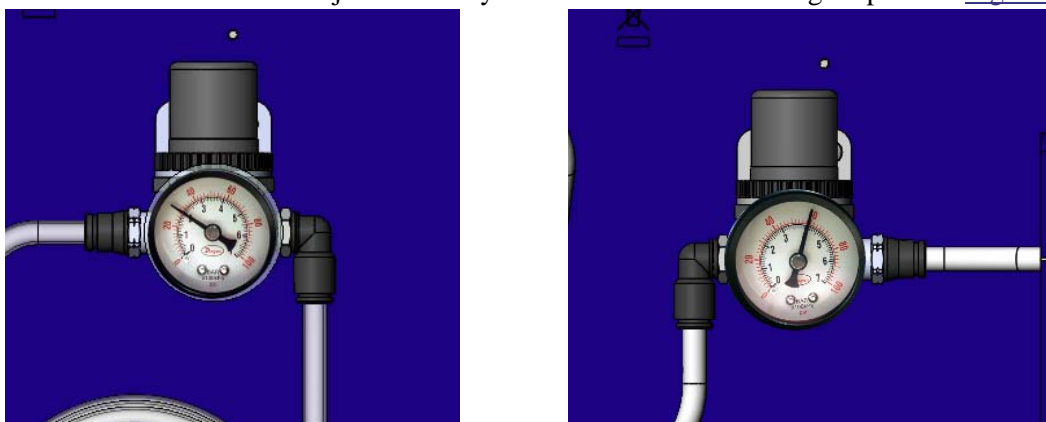

Figure 24 Left: Standalone DMA Air Chiller Panel Outlet Pressure Regulator showing 30 psi.
- 8 **Standalone DMA Air Chiller Panel:** Set the Outlet Pressure Regulator to 30 psi. See Figure 24.
Combined DHR/DMA Air Chiller Panel: The Outlet Pressure Regulator is factory set to 60 psi and does not need to be readjusted. Verify that the indicator is reading 60 psi. See Figure 24.